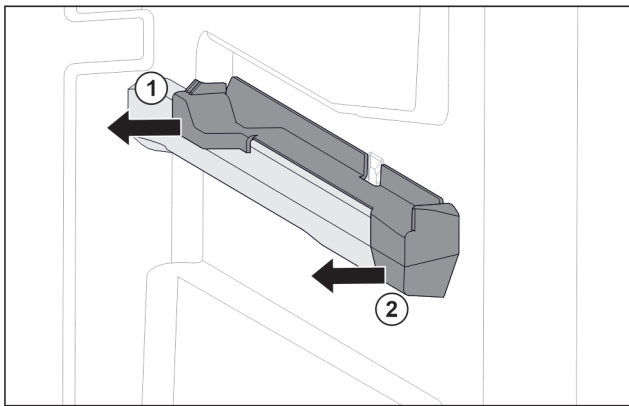

Fig. 93 Attachment on the right moulded rib
- ▶ Pull off attachment at the back sideways. Fig. 93 (1)
- ▶ Pull off attachment at the front sideways. Fig. 93 (2)